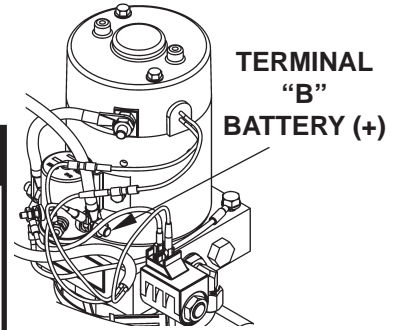

FIG. 48-1
1. Use voltmeter to verify power is being supplied to solenoid terminal "B". Recharge the battery if voltmeter indicates less than 12.6 volts (FIG. 48-1).